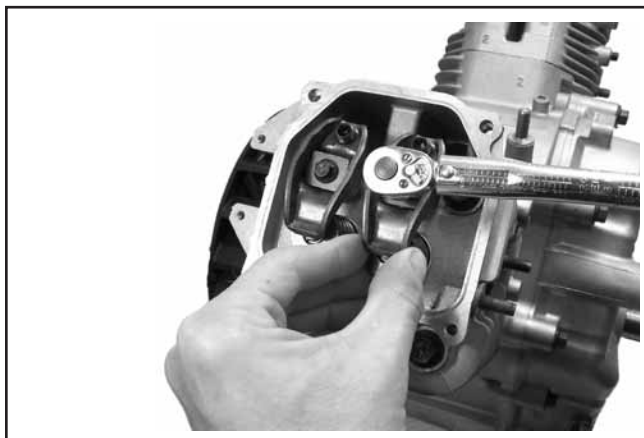

Figure 10-48. Torquing Rocker Arm Screws.
3. Hold the rocker arms in aligned position and torque the hex flange screws to **11.3 N·m (100 in. lb.)**. See Figure 10-48.